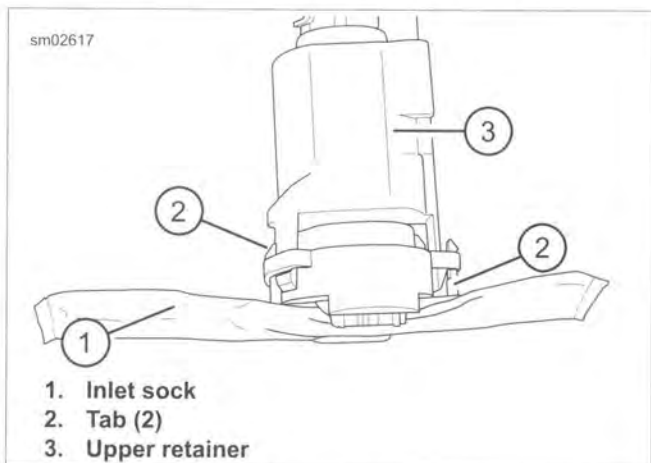

Figure 4-42. Fuel Sock
1. See Figure 4-42. Press tabs (2) securing inlet sock (1) to upper retainer (3).
3. See Figure 4-42. Install inlet sock (1) on upper retainer (3). Make sure tabs (2) engage slots in body.